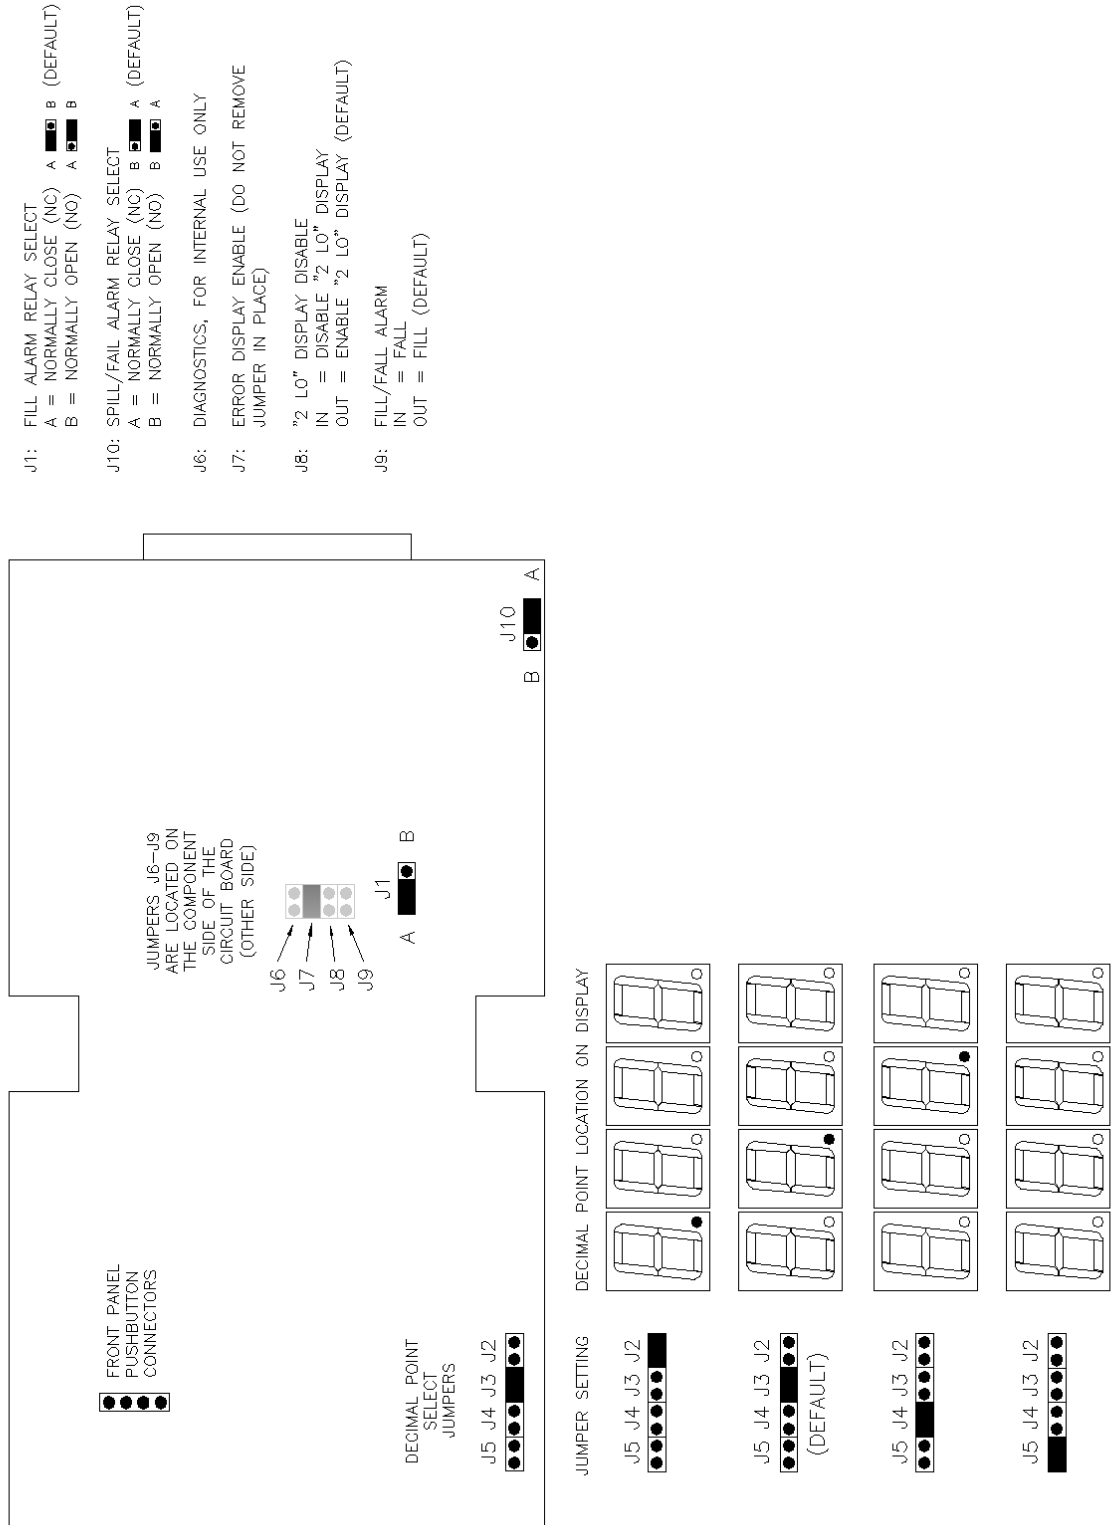

Figure 2-37: Finch 5332E/(PS) External Display Jumper Settings
3. Relay Module GAUGE GND (2) to Finch GROUND IN (24)
4. Relay Module PTO (13) to Finch DISPLAY ENABLE (PTO) (7)
5. Relay Module 12V POWER (1) to Finch POWER IN (25). 3A fuse not required.
6. TD80 Power (Black wire) to Finch GAUGE POWER (4)
7. TD80 Ground (White wire) to Finch GAUGE GROUND (5)
8. TD80 SV Bus (Red wire) to Finch GAUGE SV (6)
- a. Wire POWER ENABLE (27) to GROUND (26)
- b. Wire SPILL/FAIL Output (20) to HH-COM (17)
- c. Wire FILL-COM (12) to GROUND (13)
- d. J1, J9, J10, Decimal Point Jumper positions, see Figure 2-37
10. Optional Gauge Enable toggle switch red wire to DISPLAY ENABLE (PTO) (7) and black wire to GROUND (922)
11. Finch SPILL/FAIL-COM (21) to Relay Module FAIL-COM (6)
12. Finch HH-NC (16) to Relay Module HH-NC (5)
13. Finch FILL-NC (11) to Relay Module FILL-NC (4)
1. Fused Power and Ground wires from nose box socket or junction box through a 5A fuse to Relay Module POWER (15) and GROUND (14)
2. Optional PTO or brake air switch to Relay Module PTO (13) and Electrical Ground
3. Relay Module GAUGE GND (2) to Finch GROUND
4. Relay Module 12V POWER (1) through a 3A fuse to Finch 8-28 VDC POWER
5. Relay Module PTO (13) to Finch GAUGE ENABLE (PTO)
9. Finch Wiring and Jumpers, see Figure 2-37
11. Finch FAIL-COM to Relay Module FAIL-COM (6)
12. Finch HH-NO to Relay Module HH-NC (5)